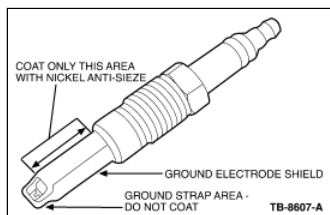

Figure 1 - Article 08-7-6
**NOTE:** NEW PLUGS SHOULD BE INSTALLED USING A FILM COATING OF MOTORCRAFT HIGH TEMPERATURE NICKEL ANTI-SEIZE LUBRICANT ON THE GROUND ELECTRODE SHIELD. DO NOT COAT THE ELECTRODE STRAP. (Figure 1)